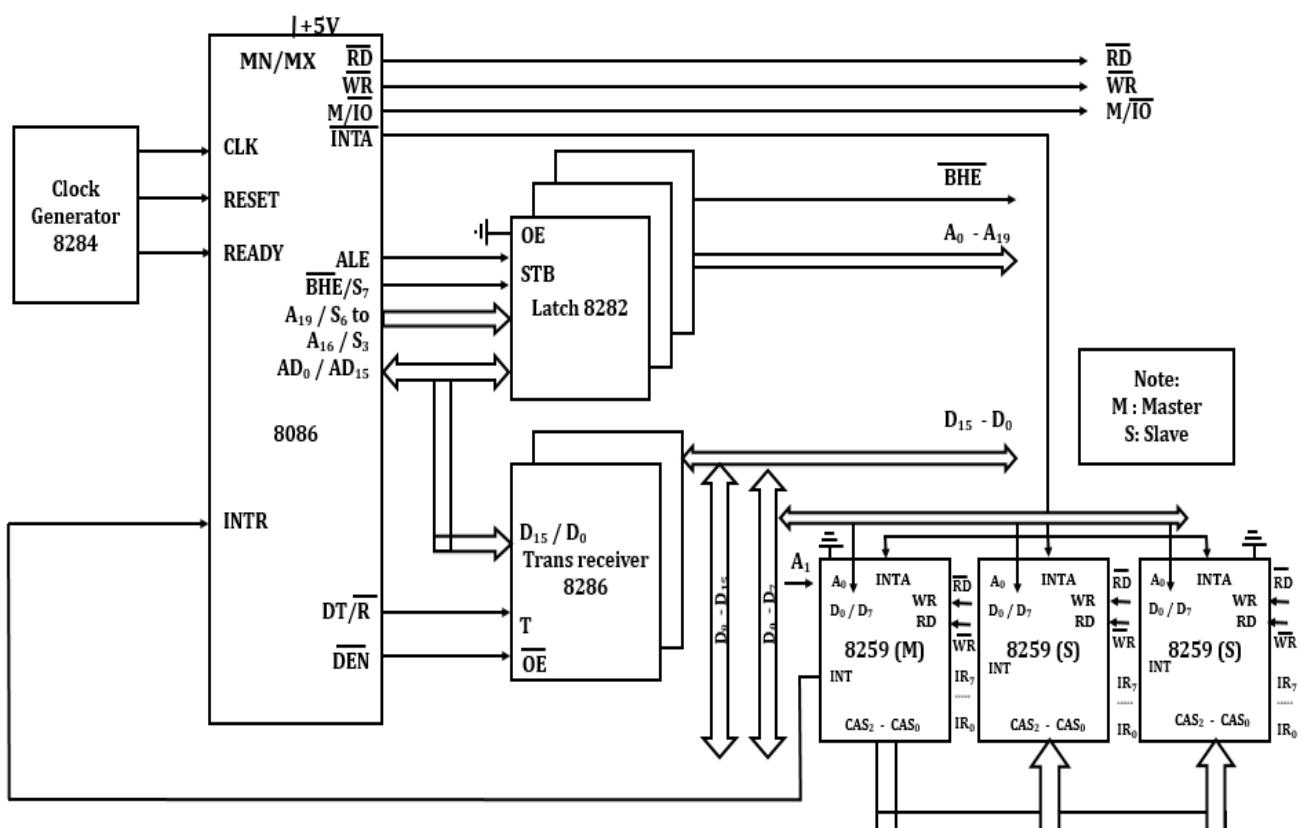

Figure 3.3: 8086 in Minimum Mode, 8259 in Cascade Mode.
18. Figure 3.3 shows interfacing of 8259 with 8086 in minimum mode (8259 in cascade mode).